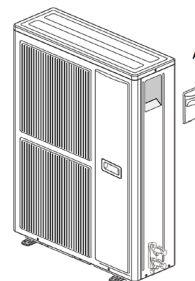

fig. 21
1. Remove the side panel (A fig.21).